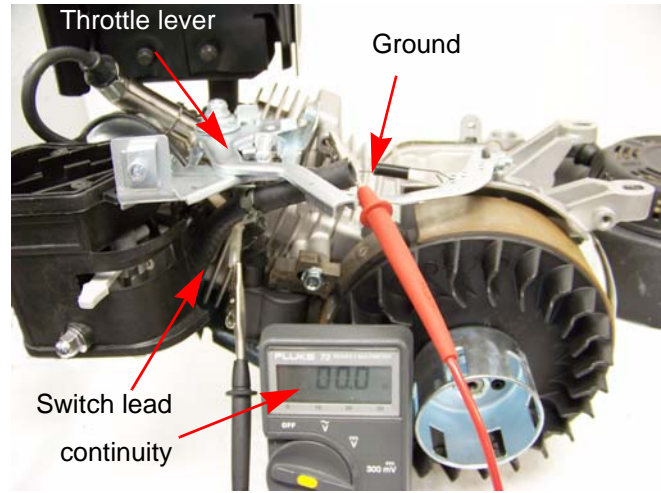

Figure 7.3
- When the throttle is all the way to the right (stop), the multimeter should read at or near 0.0Ω , indicating continuity. See Figure 7.3.